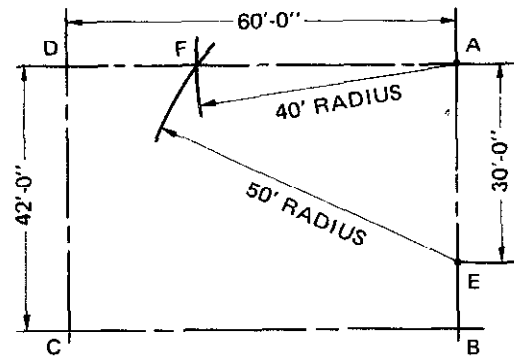

Fig. 5-23 Laying out building lines with a 3-4-5 triangle.
1. Measure 30 feet along side A-B. See figure 5-23.
1. Square the corners of the building lines as shown in figure 5-23.